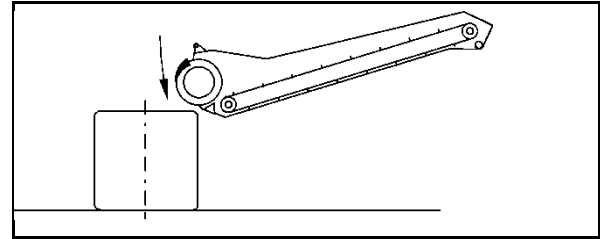

Fig. 161
- Pick up round bales:** Move close to the round bale such that the scraper bar tightly fits the round bale (Fig. 161).